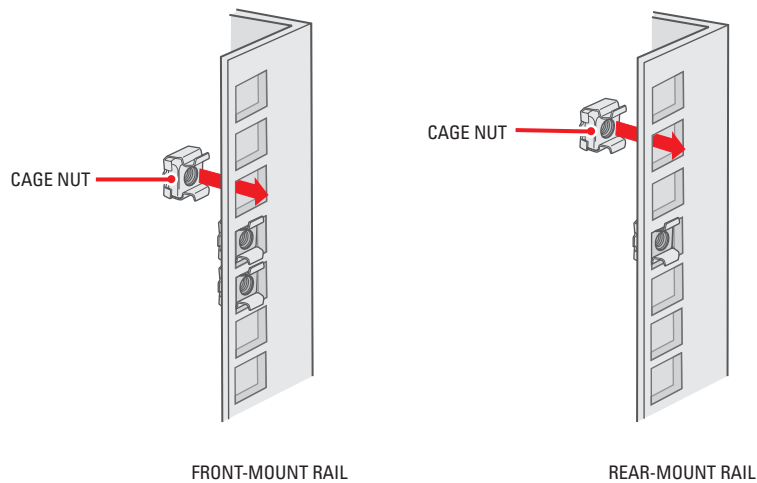

Figure 9. Inserting Cage Nuts
5. *If you are installing the unit into a square-hole rack:* Insert 10 cage nuts into the square-hole rack as shown in Figure 9. Align the top and bottom cage nuts on the front racks with the top and bottom cage nuts on the rear racks.